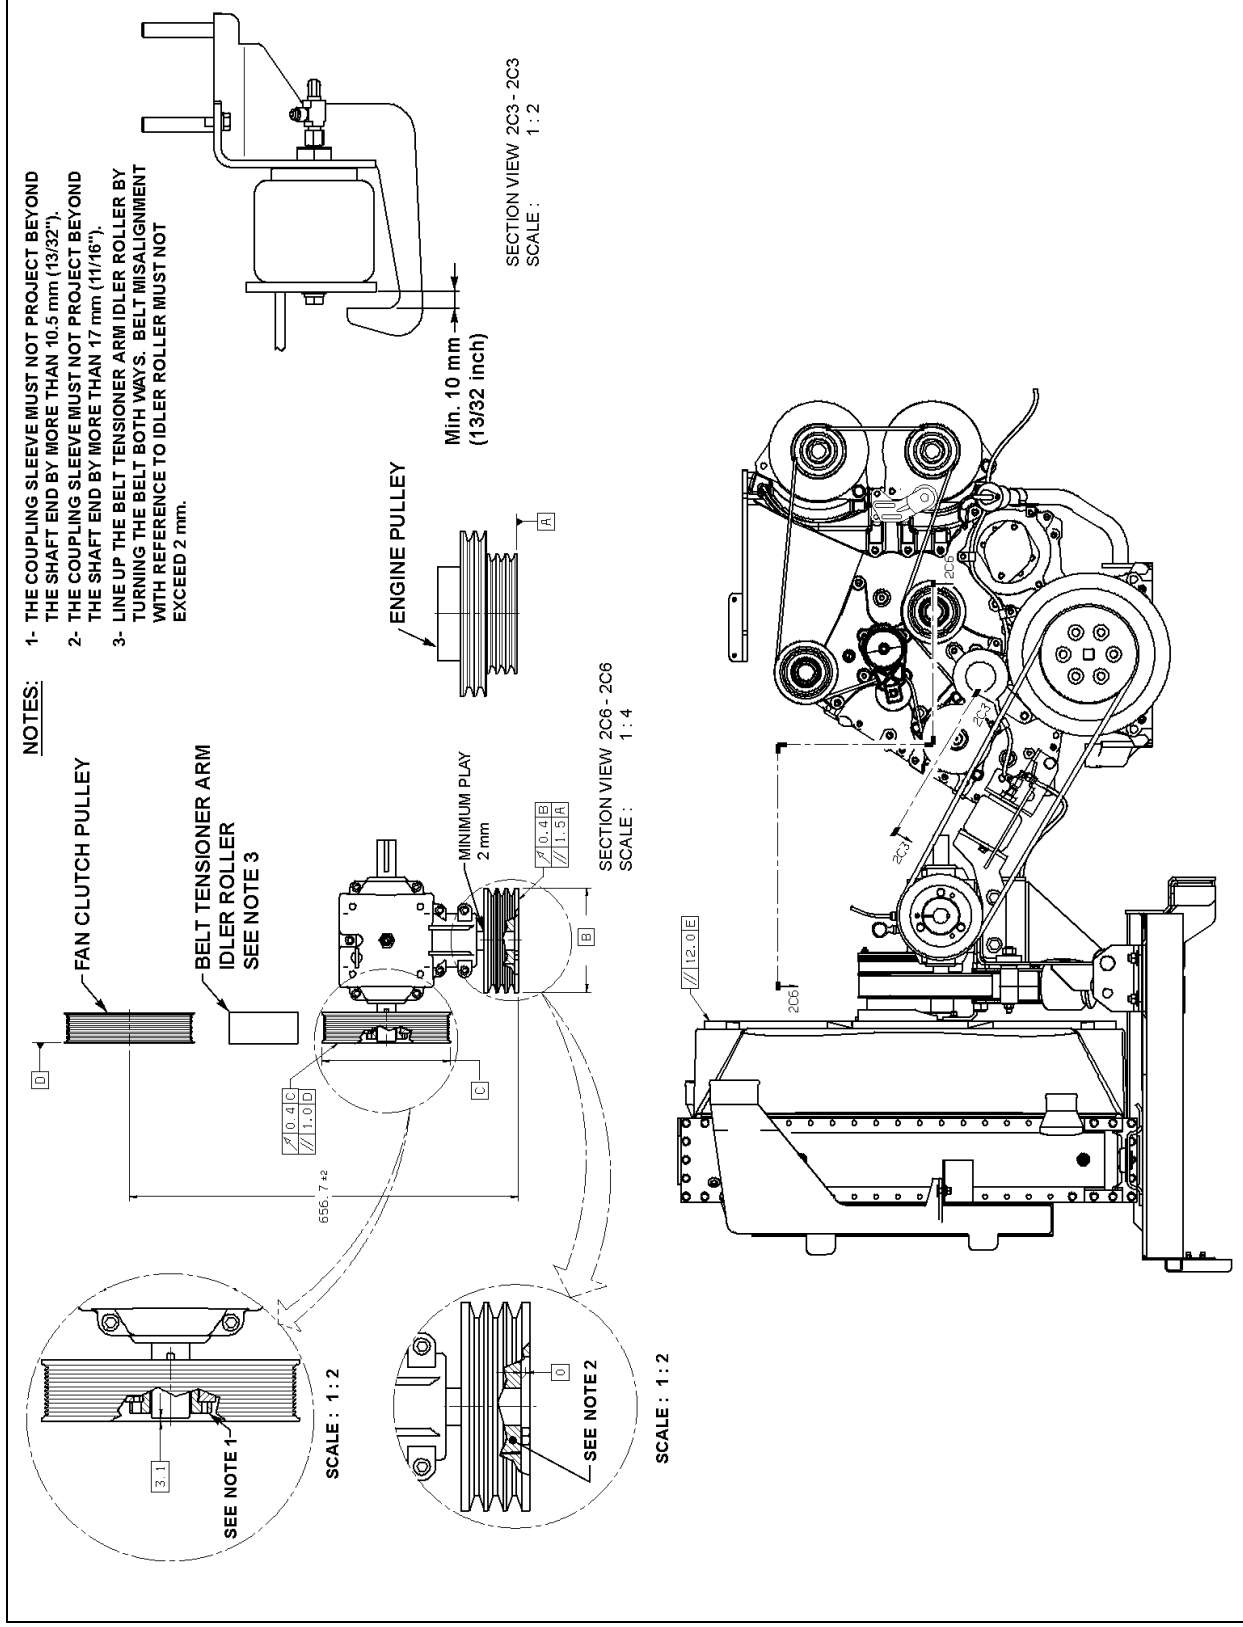

FIGURE 12
28. Install pulley (052584) onto gearbox. Fix pulley coupling sleeve to mounting flange using key and 3 screws supplied with sleeve referring to plays indicated in figure 12.
31. Use a straight edge to properly align fan clutch pulley with gearbox pulley. Install belt (5060073) over fan transfer mechanism pulleys, slightly unfasten gearbox fixing bolts in order to pivot the gearbox and properly align belt on the pulleys (Refer to figure 12). Retighten fixing bolts.